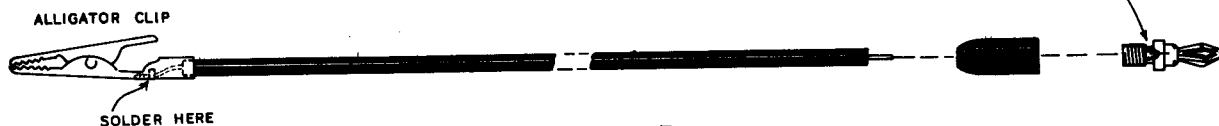

Figure 7
- (✓) Assemble the test leads as shown in Figure 7.